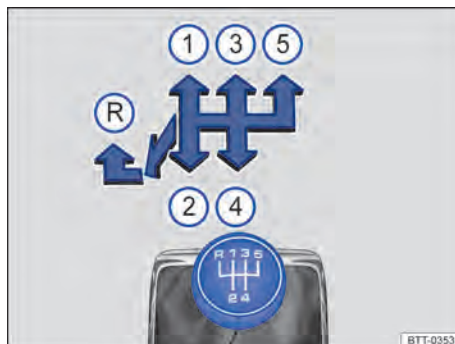

Fig. 83 Gear shift pattern of a 5-speed manual gearbox.
Each gear's positions are illustrated in the gear lever → Fig. 83.
- Push the gear lever fully to the left and then to the front in the reverse gear position → Fig. 83 (R).